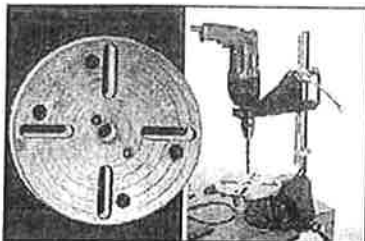

Figure 3
- **Work Plate**-this plate gives a larger surface for support of the work piece being drilled. **See Figure 3.**